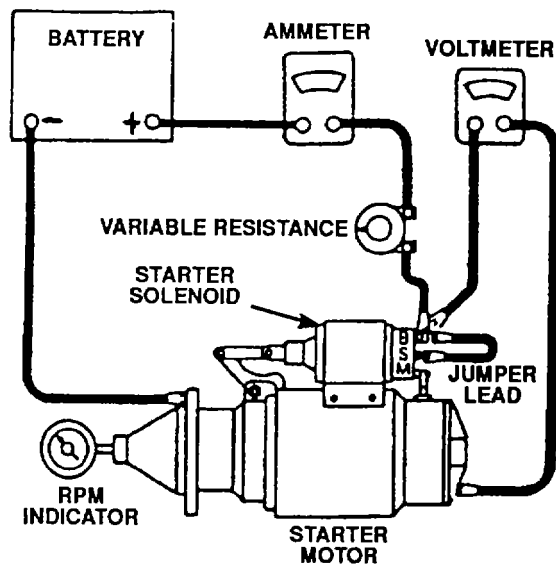

Figure 4-58. No-Load Test Connections
- a) Connect starter motor as in figure 4-58 in series with fully charged 12-volt battery, ammeter (200 amp capacity), and variable resistance.